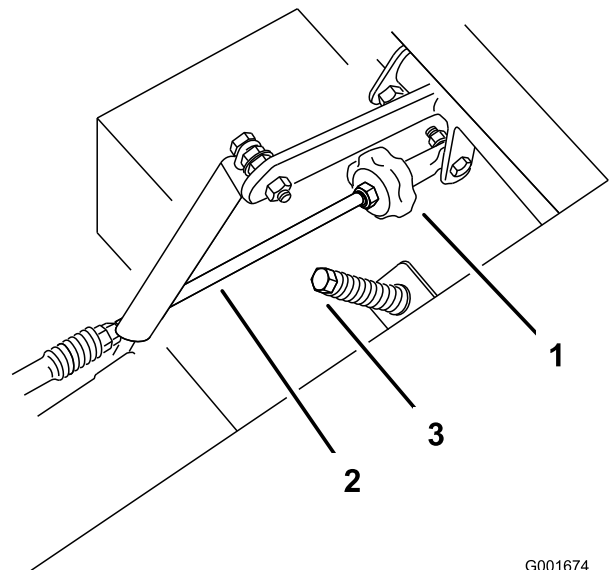

Figure 54
2. Adjust the pump rod length by rotating the knob, in the appropriate direction, until the wheel is still or slightly creeping in reverse (Figure 54).